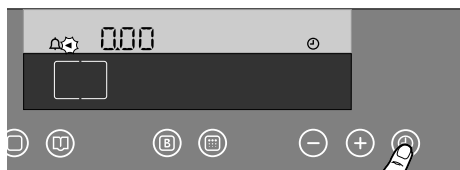

Fig. 10
1. Touch the "Time Function" control . The symbol  flashes near the "Minute Minder" symbol  and the time display shows "0.00" (Fig. 10).